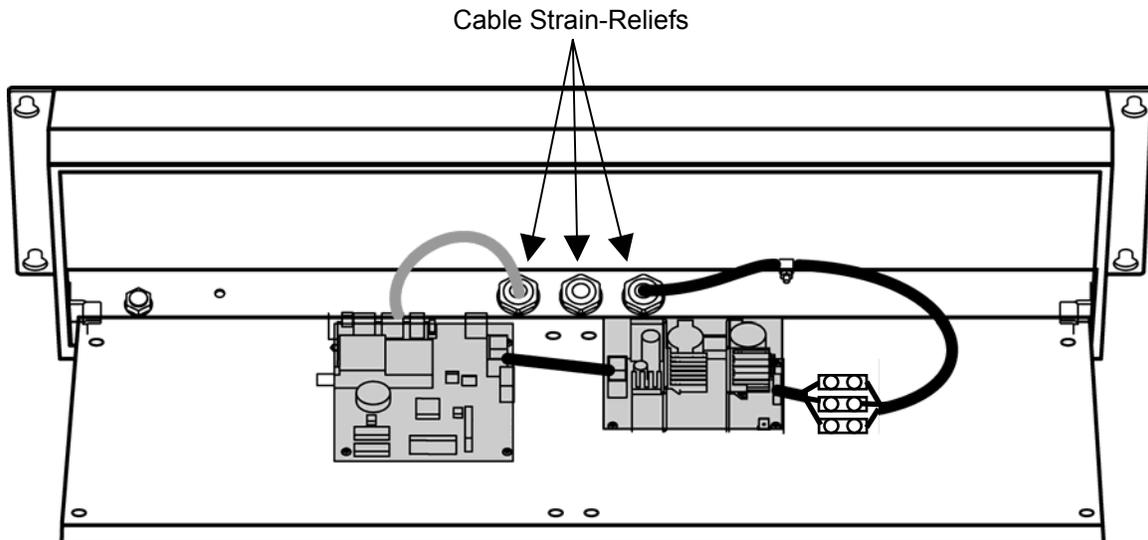

Fig. 9: Cable routing
5. Run communication cables up into the enclosure via the cable strain-reliefs as necessary (Fig. 9).